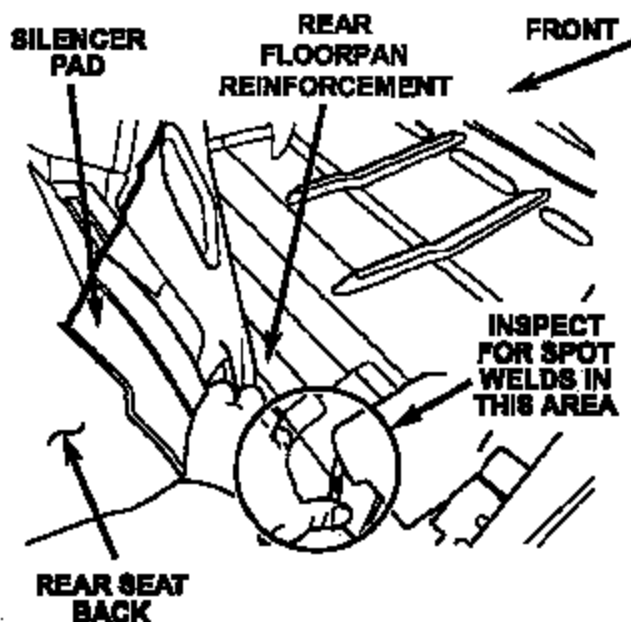

Figure 1
6. Pull the floor silencer pad forward to expose the rear floorpan reinforcement (Figure 1).